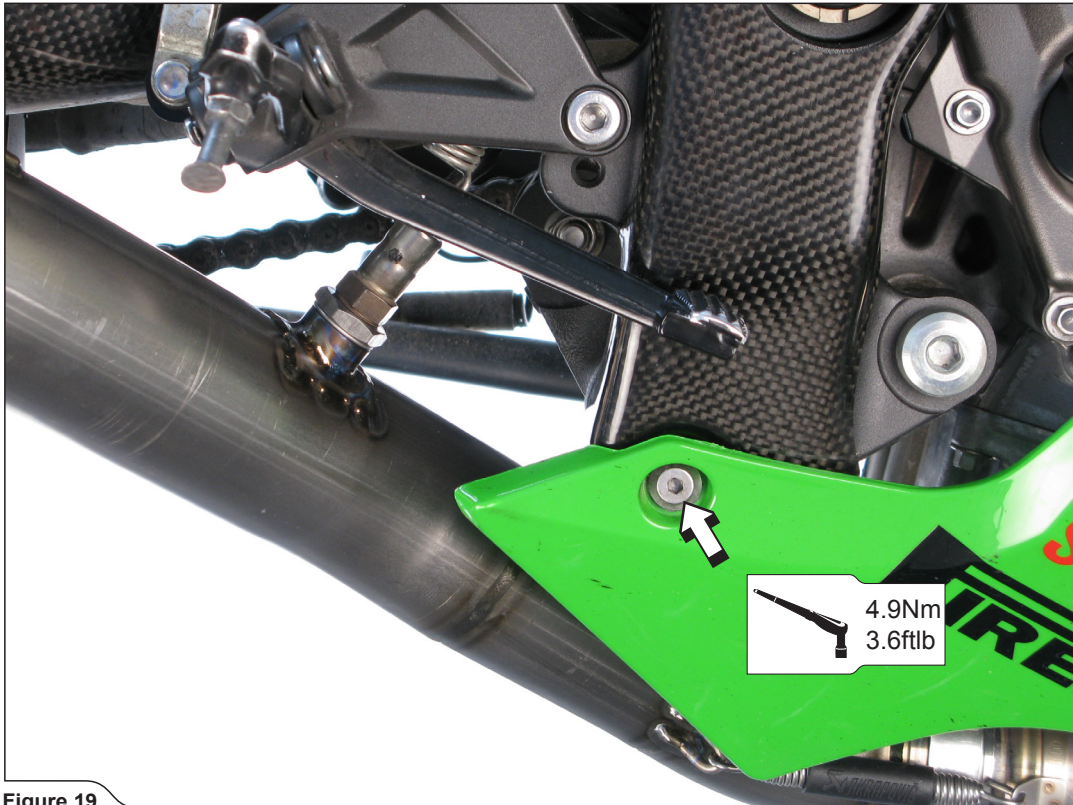

Figure 19
9. Tighten the marked cowling bolt to the specified torque (Figure 19).